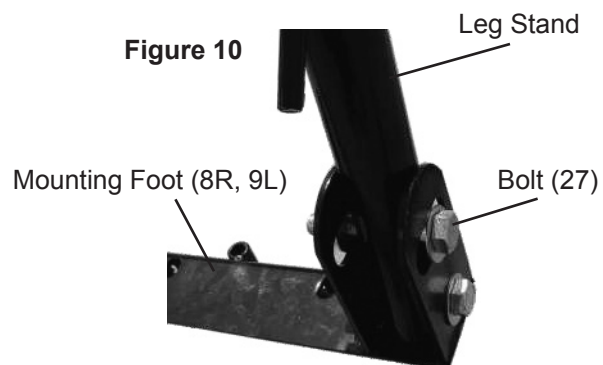

Figure 10
14. **Please note:** If lower Truck Rack height is desired, Leg Stands can be fastened directly to Front and Rear Mounting Feet without Coupler Risers. Use Bolts (27), Nuts (28), Spring Washers (29) and Flat Washers (30) to fasten Leg Stand to Feet. See **Figure 10**, below.